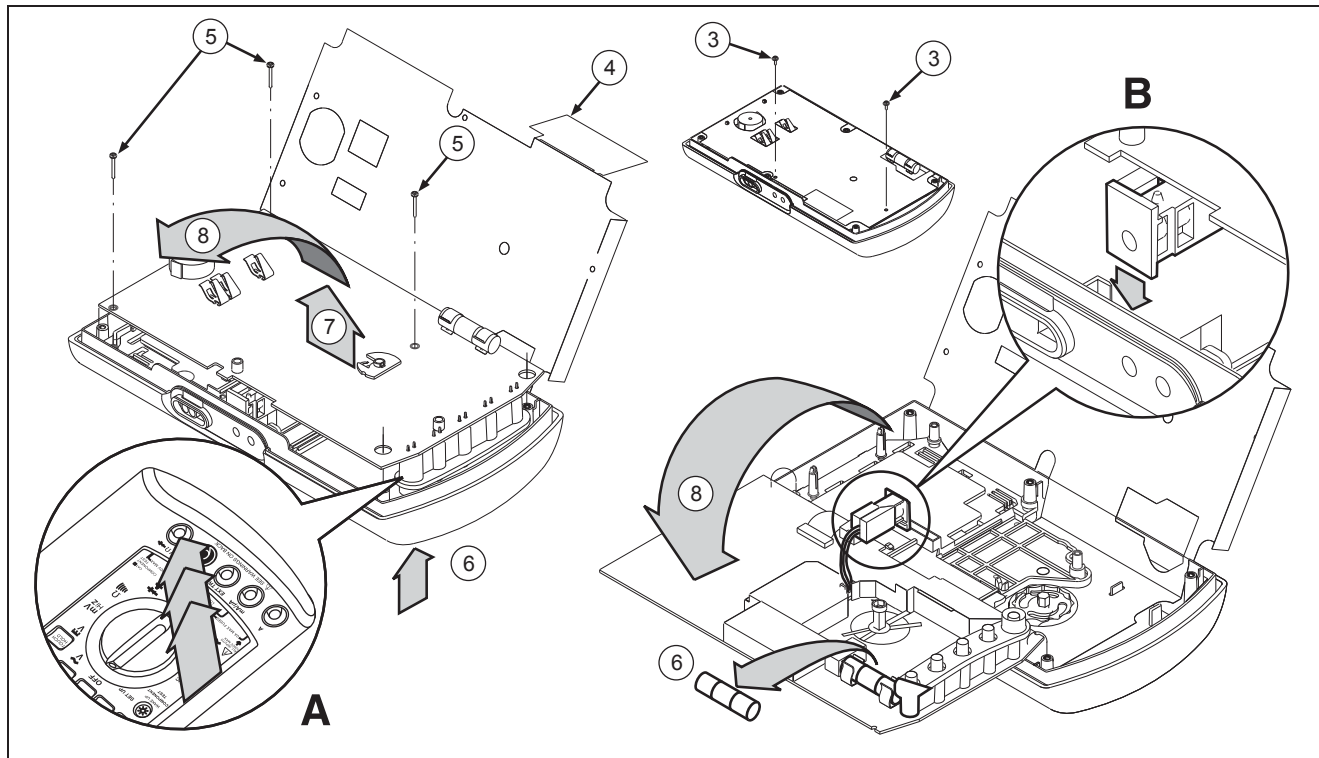

Figure 7-1. Replacing the 11A (High Energy) Fuse
3. Remove the two screws securing the shield as shown in Figure 7-1. Then pry the shield loose from two stanchions at the top of the circuit board.
6. Dislodge the circuit board by pushing in on the Volts-Ohms input connector from the lower right front of the GMM. (See Figure 7-1, Detail A).
7. Lift the entire circuit board up approximately one inch, dislodging the slotted Battery Eliminator connection. (See Figure 7-1, Detail B).
4. As you begin lowering the board into position, make sure the battery eliminator connection (Detail B in Figure 7-1) slips into its slot snug against the top case wall.